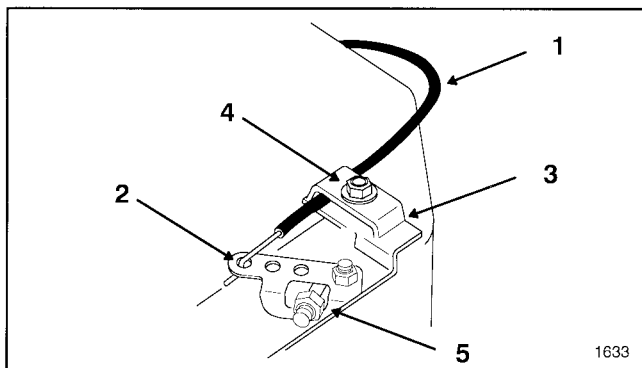

Figure 5
4. Hook cable "Z" end into last hole in governor arm. Loosen cable clamp screw and install cable under clamp (Fig. 5).
5. Push firmly on engine speed control cable until governor arm contacts stop and tighten cable clamp screw (Fig. 5).